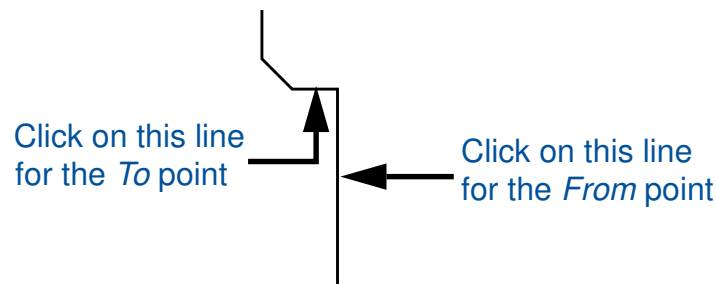

Figure 4-12. Locations for First Fillet
21. Choose the **[Shapes] Add Arc > Make Fillet** menu item. In the dialog box, enter a radius of **0.2**, and make sure the Clip Option is set to **clip_both**. Press the TAB key to highlight the From prompt. Place the cursor on the location shown in Figure 4-12 for the *From* point, and click the Select mouse button. At the To prompt, place the cursor on the location shown in Figure 4-12 for the *To* point, and click the Select mouse button.